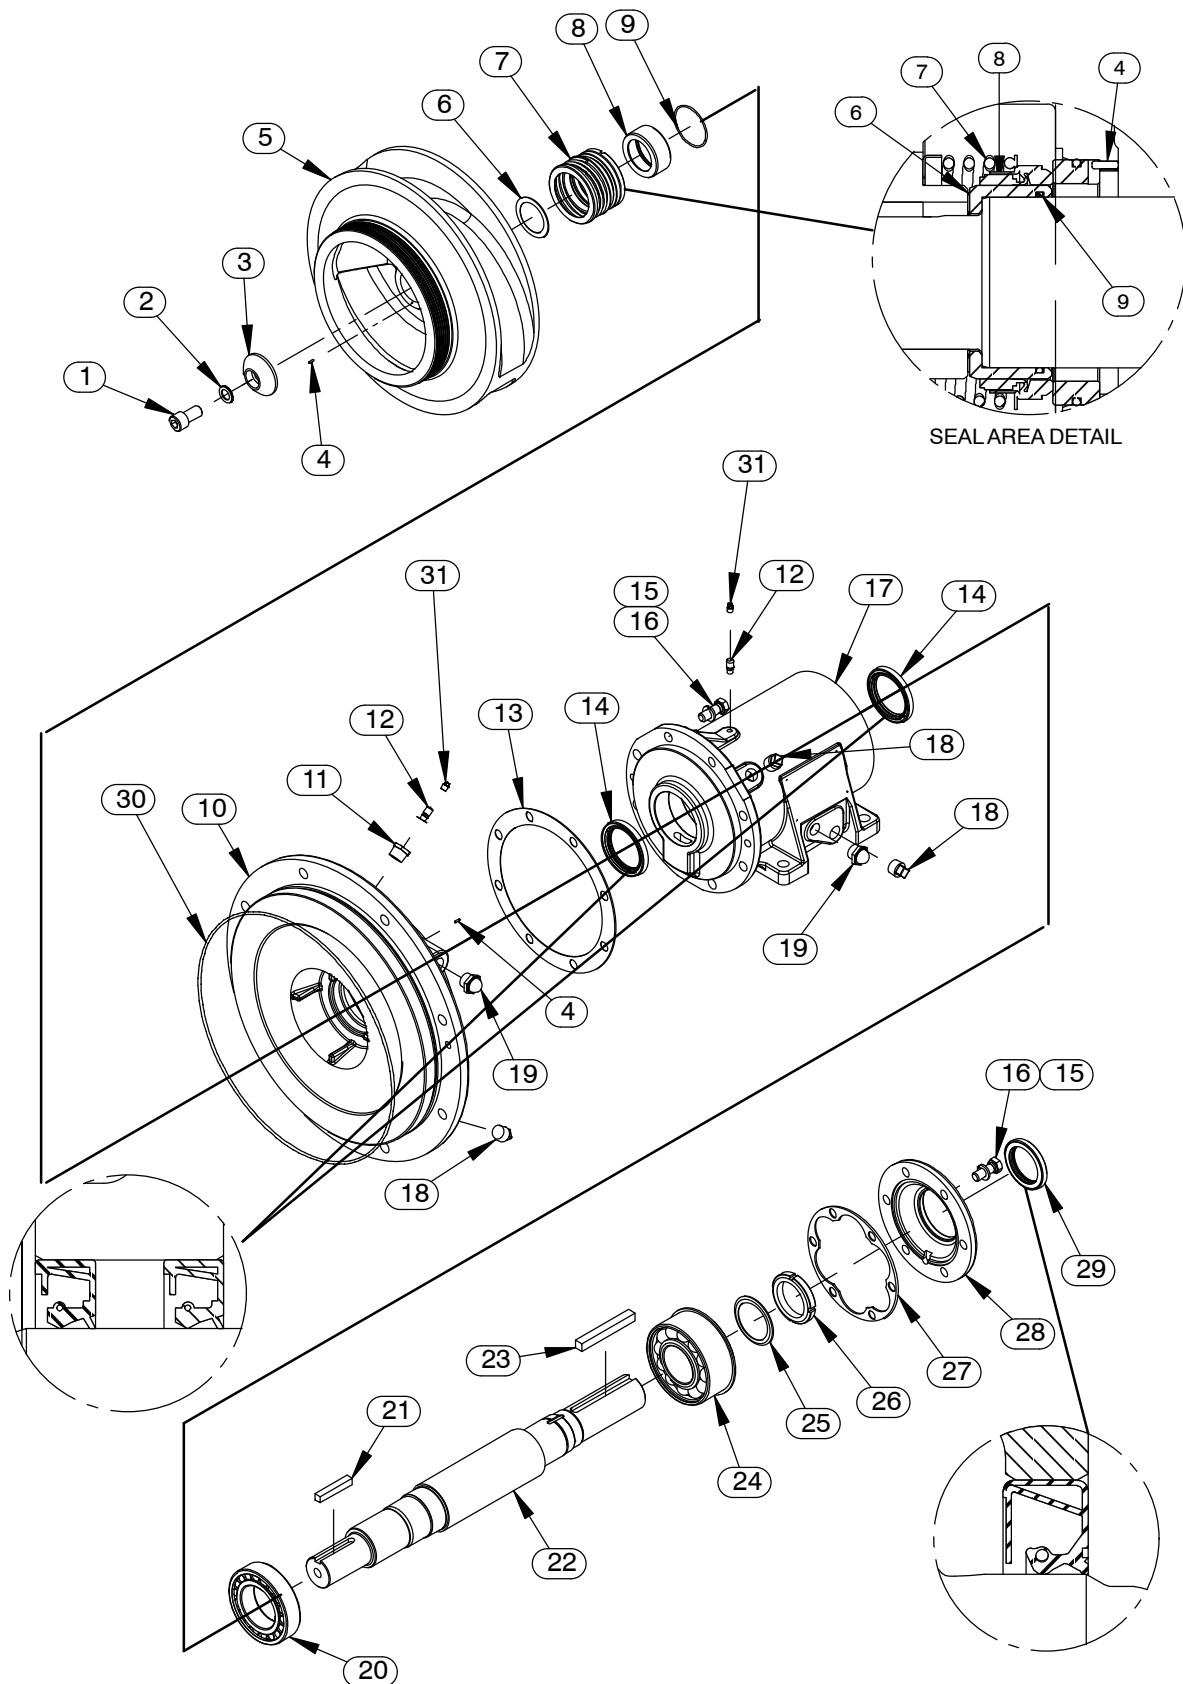

Figure 2. Repair Rotating Assembly
### (Figure 2)
(Figures 2 and 3)
Further disassembly requires separating the rotating assembly from the power source. Remove the coupling securing the rotating assembly to the power source and remove the key (23, Figure 2).
(Figure 2)